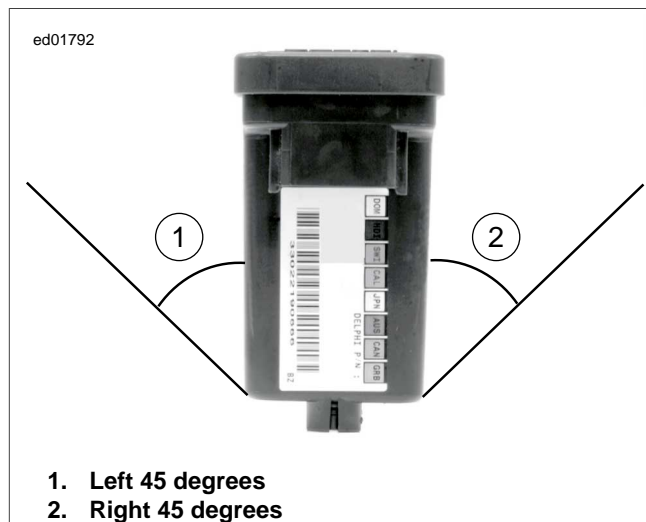

Figure E-15. Tilting TSM/HFSM
- See Figure E-15. Position TSM/TSSM in same orientation it is mounted on vehicle. Turn the ignition switch to IGNITION. Turn on four-way flashers by pressing both left and right turn signal switches simultaneously. Turn ignition switch off; four-way flashers should continue to flash.